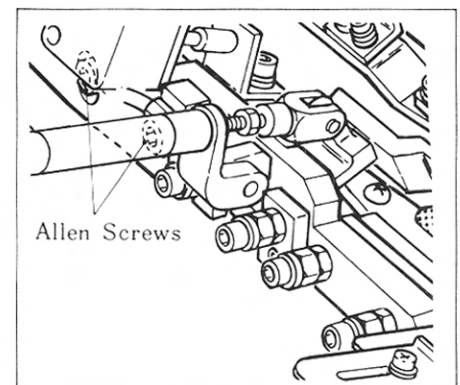

Figure 10
3. Clamp Foot Adjustments (Figures 10, 11 and 12)
- To level the clamps, loosen the two large allen screws on the side of each clamp arm (see Figure 10). Loosen the screws and position the clamps evenly. Lower the clamps and check for even clamping pressure.